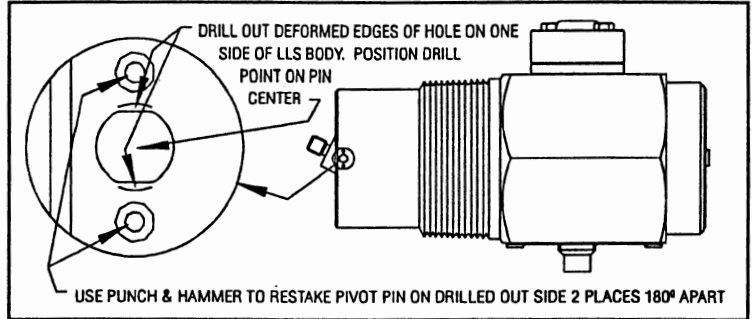
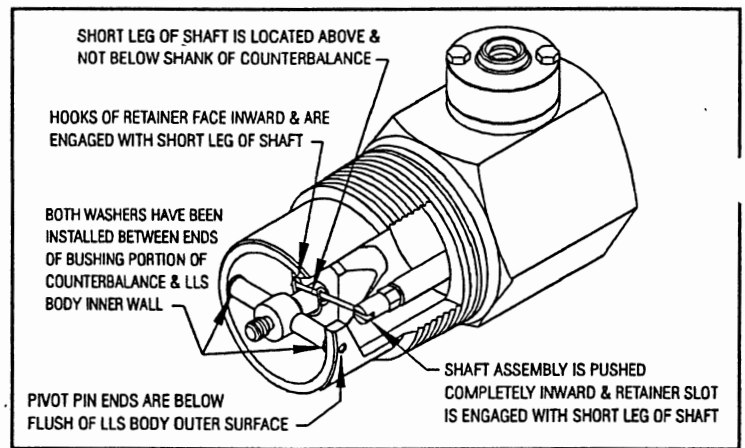

Figure 14. Drilling removal and restaking of Float Pivot Pin.
Figure 17. Assembly checks prior to restaking pivot pin
- Clamp LLS Assembly in a bench vise allowing access for removal of item 2 Pivot Pin.
- Use an 1/8" twist drill to drill out deformed hole edges of Pivot Pin stake (Figure 14). Position drill on Pin Center. It is only necessary to drill out stake on one side of LLS body and no deeper than that required for pin removal.
- d. Perform the assembly checks shown in Figure 17 then clamp LLS in a bench vise and use a center punch and hammer to restake Pivot Pin on side previously drilled out (Figure 14).